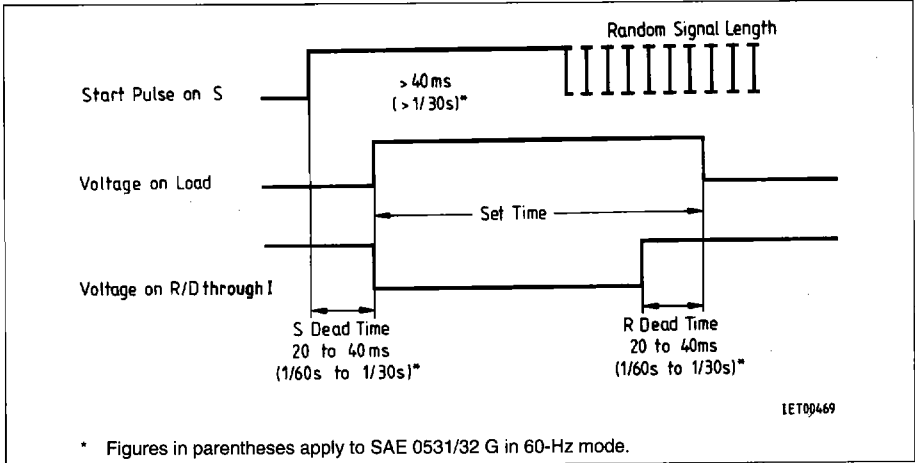

Figure 1
1. Turn-on interval DIN 46120 (figure 1)
Start of Time Measurement (Figure 1, 2)
Inputs N, S, R, FC, A, B, C (and CO) * have an internal pullup resistor, i.e. they are high if not wired. On start input S there are also clamping diodes to V_S and GND so that it is possible to start with external potential. Reset input R is usually connected to one or more of the open-collector outputs D through I, enabling cutout of the load and resetting of the counter when the set delay has elapsed. These outputs are turned off ($R = H$) in their basic state (after reset), conduct when the time measurement starts ($R = L$) and are turned off again ($R = H$) after the delay (**see Figure 1 and 2**).